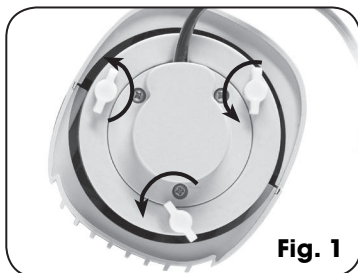

Fig. 1
2. To assemble the base stand, place the tower fan body on its side. Remove the 3 fastening screws from underneath the tower fan section of the fan and set aside. (See Fig.1).